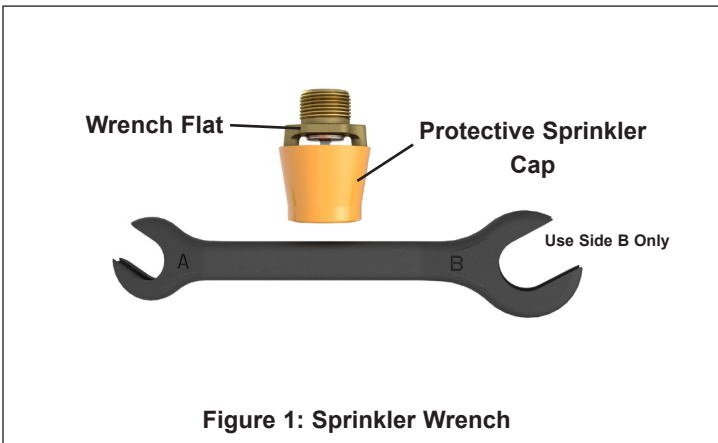

Figure 1: Sprinkler Wrench
- D. **Use ONLY sprinkler wrench 13635W/B (shown in Figure 1) for installing VK514. With the sprinkler contained in the protective cap, install the sprinkler onto the piping by applying the sprinkler wrench to the sprinkler wrench flats only, while taking care not to damage the sprinkler operating parts.**
Sprinkler Wrenches (see Figure 1):